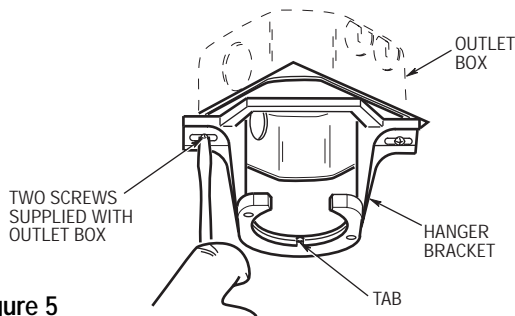
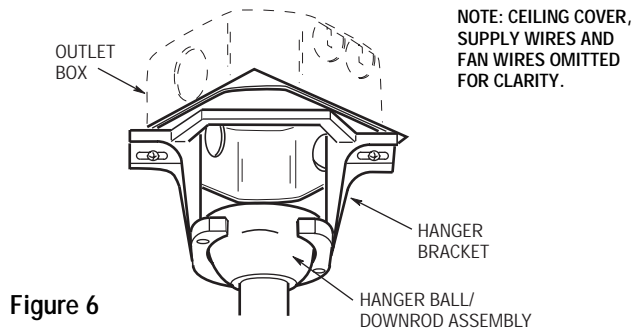

Figure 5
Figure 6
1. Securely attach the hanger bracket to the outlet box using the two screws supplied with the outlet box (Figure 5).
2. Carefully lift the fan from the foam pad and seat the hanger ball/downrod assembly on the hanger bracket that was just attached to the outlet box (Figure 6). Be sure the groove in the ball engages with the tab on the hanger bracket (Figure 5).